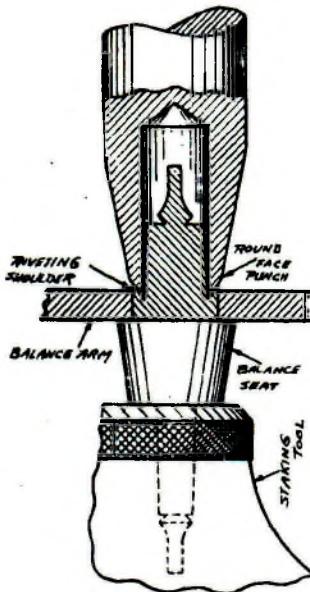

Fig. 36
C. To rivet the balance wheel on the staff, select and center with the centering punch, a hole in the staking tool that will fit the roller shoulder of the staff without binding. Place the balance wheel on the staff and use a snug-fitting round-faced punch which will spread the rivet. (Fig 36) Tap the punch a few light blows with a brass hammer at the same time turning the balance wheel continuously with the little finger of the left hand. Now select the proper flat punch, which is used to flatten the rivet so there are no uneven surfaces. (Fig 37) This flattening operation is done in the same manner as the riveting process.